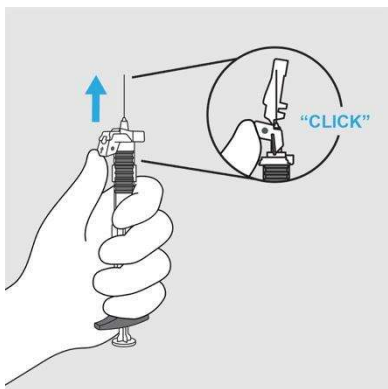

Figure 16: Activate safety device
6. When injection is complete, withdraw the needle from the patient. Immediately activate the safety device by pressing upward from just below the arrow until a “CLICK” is heard or felt and the needle is fully covered. (Figure 16)